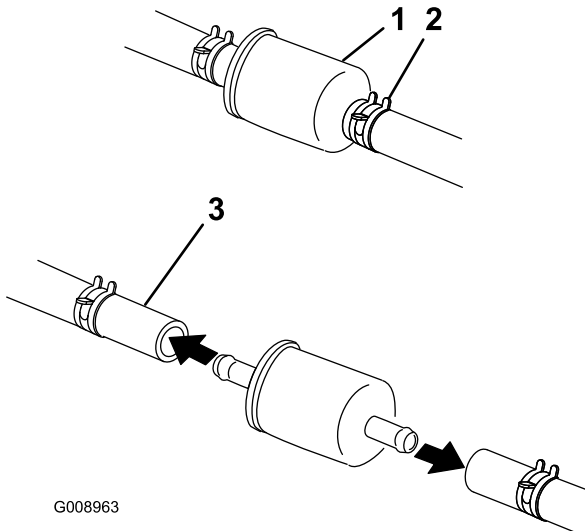

Figure 45
5. Close the fuel shutoff valve behind the seat (Figure 45).
6. Squeeze the ends of the hose clamps together and slide them away from the filter (Figure 45).
8. Install a new filter and move the hose clamps close to the filter (Figure 45).